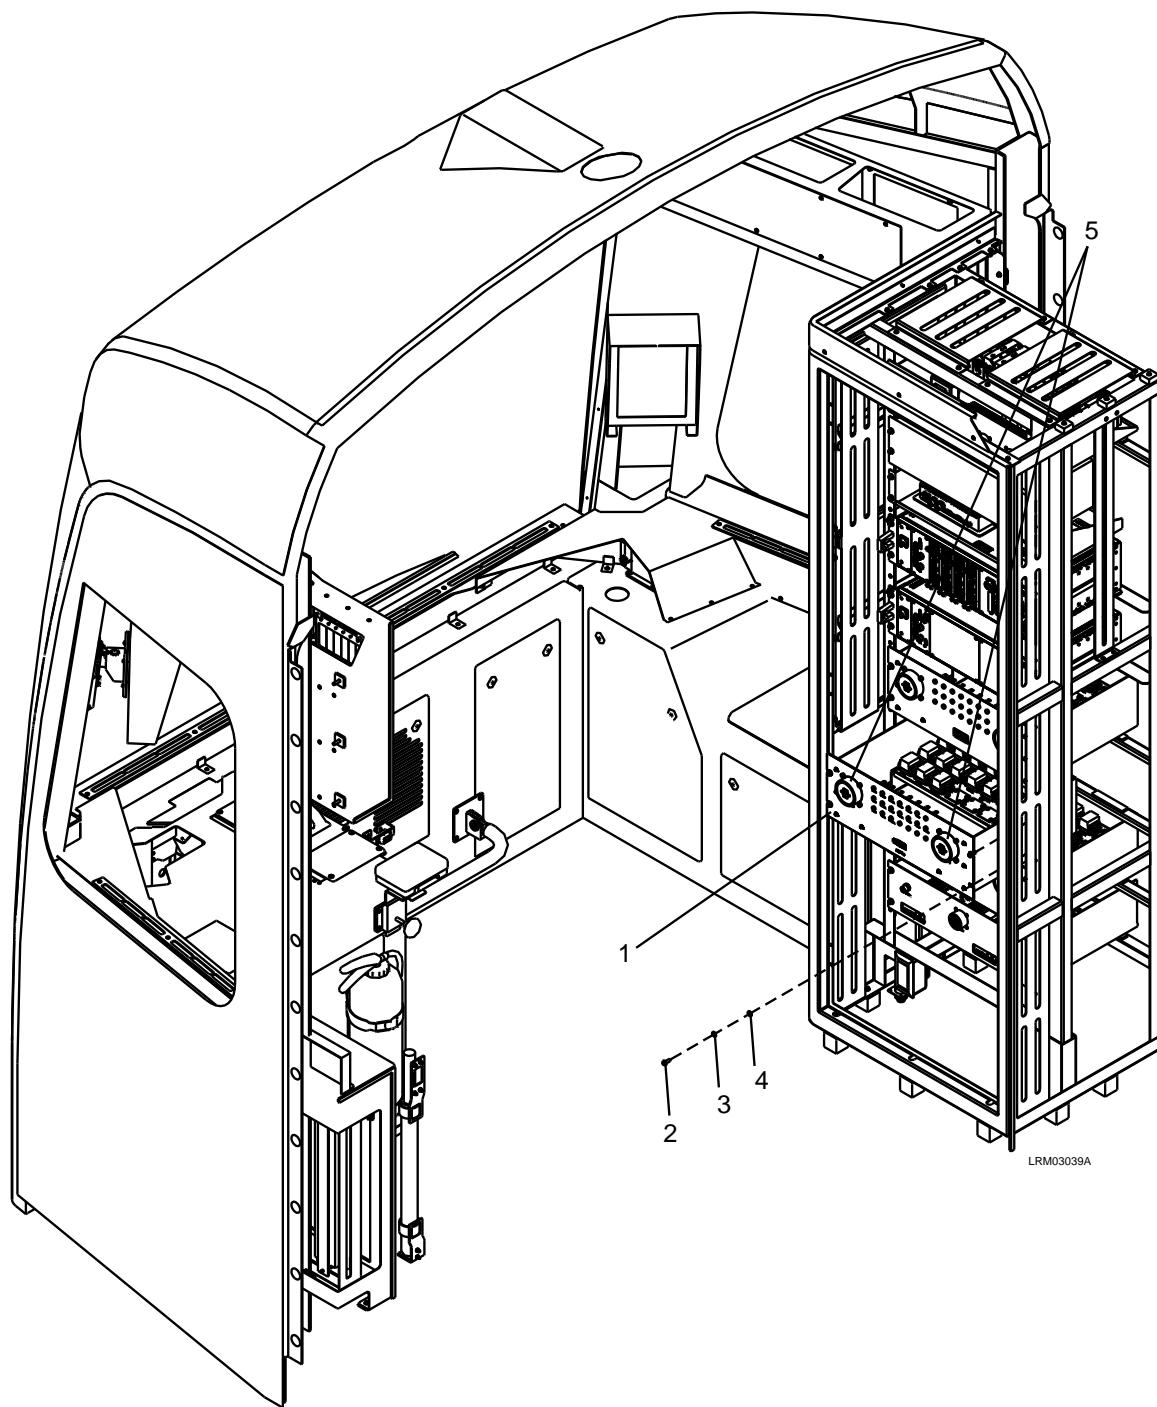

Figure 7-33: CRP7A Panel
2. Disconnect the electrical connectors (5) to the CRP7A Panel (1). See Figure 7-33.
3. Remove the four M6 x 16 screws (2), M6 lock washers (3), and M6 plain washers (4).
4. Carefully remove the CRP7A Panel (1).